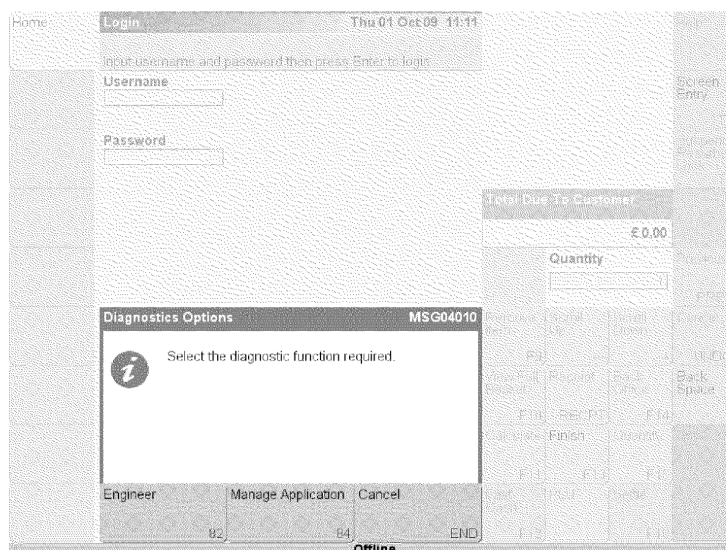

Figure 10
- 2) Shutting down a Horizon counter. Log out of the counter and return to the “grey” screen. Touch the screen and then touch System Diagnostics (82). When the display below (see Figure 10) appears touch Manage Application.